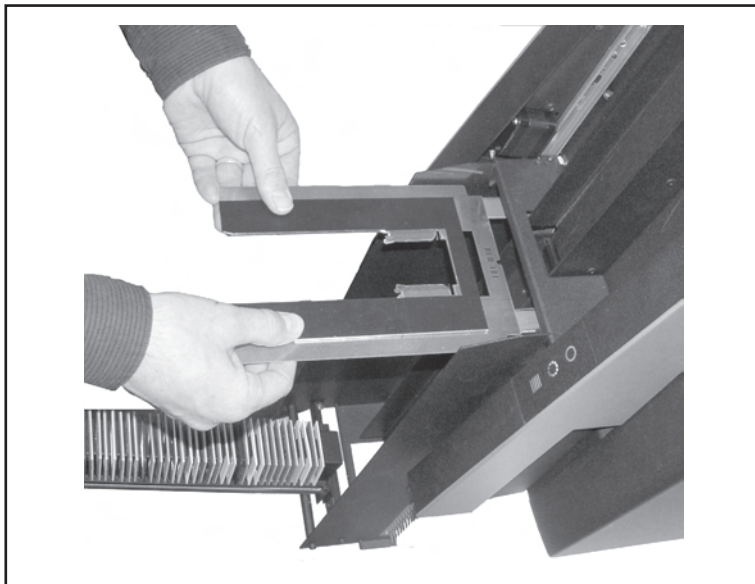

Figure 6: Inserting the Slide original holder.
15. Take the slide holder and position it with the heavy metal plate facing up and the tab facing into the scanner. Hold it with both hands, grasping its lower right and lower left corners respectively as shown in Figure 6.